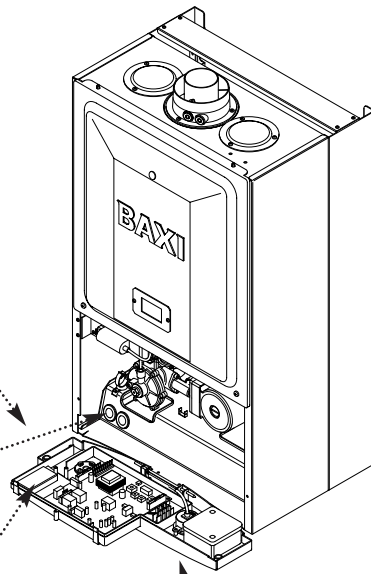

Fig. 35
2. Remove the screws securing the facia panel and hinge it down (Fig. 35).